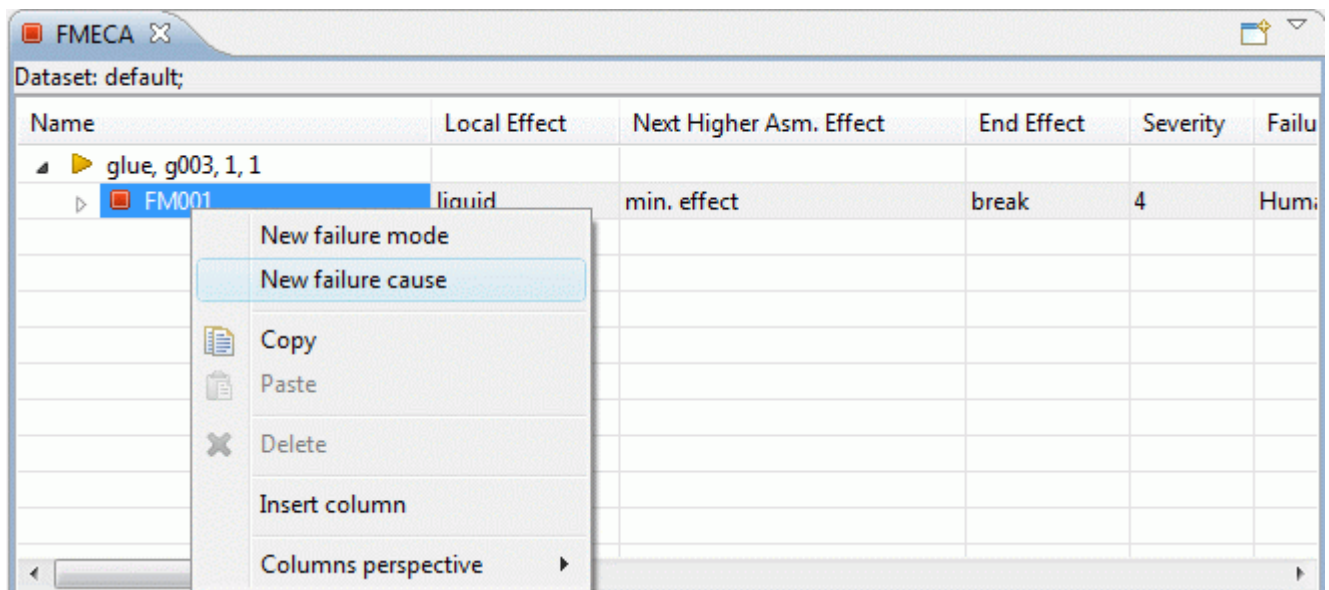

Figure 1. Context sensitive menu with selected New failure cause menu item
- Select the **New failure cause** menu item in the appeared context sensitive menu (see Figure 1).